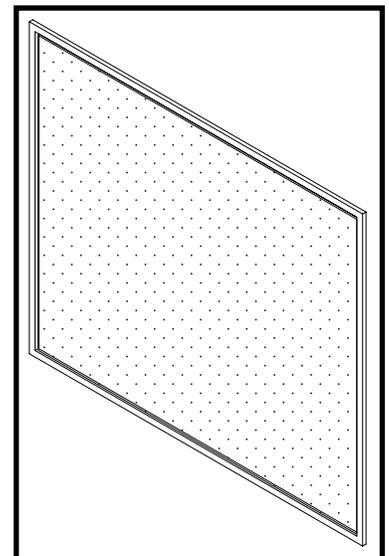

Figure 87: T&C safety barrier screen.
6. Attach the magnetic safety barrier screen (Figure 87) to the outer-most door frame.